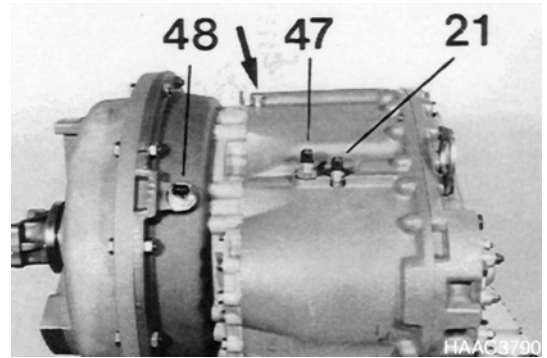

Figure 286
3. Install breather (Figure 286).